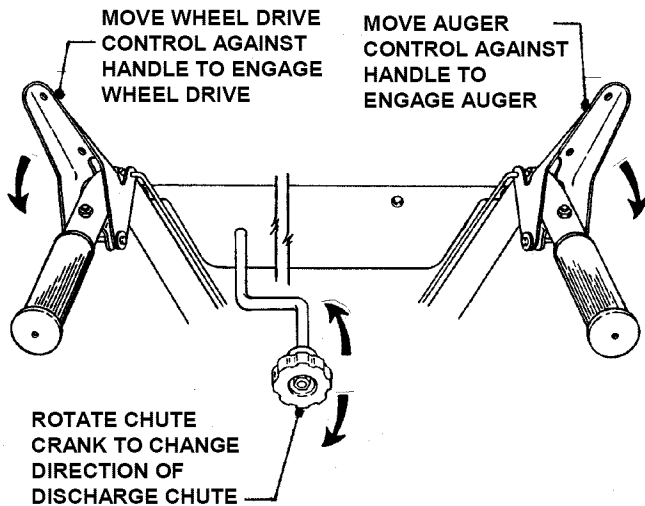
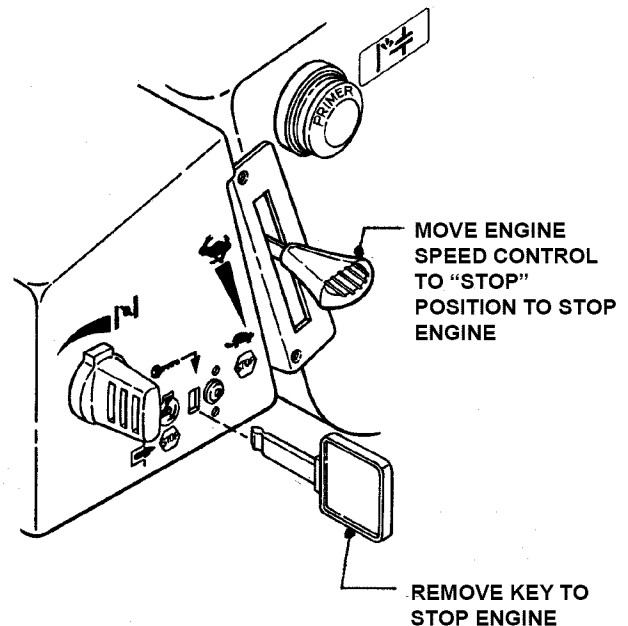

FIGURE 2.6
FIGURE 2.7
1. Move auger control lever against handle to engage auger. See Figure 2.6.
1. Move wheel drive control lever against handle to engage wheel drive. See Figure 2.6. Ground speed can be changed while the machine is in operation by changing position of the ground speed control.
1. Release auger control and wheel drive control levers to allow auger and ground speed to come to a complete stop. Refer to Figure 2.6.
3. Rotate chute crank to position discharge chute in desired direction. See Figure 2.6.
Stop the auger and wheel drive by releasing the auger and wheel drive control levers. Refer to Figure 2.6. Stop the engine by removing the key from the switch or moving engine speed control to the STOP position. Always remove key from key switch before leaving machine unattended. See Figure 2.7.
1. Pull auger control lever against handle to engage auger. Refer to Figure 2.6.
1. Move wheel drive control lever against handle to engage wheel drive. Ground speed can be adjusted while the machine is moving by changing position of the ground speed control. Machine has four forward speeds and one reverse. Refer to Figure 2.6.
3. Rotate chute crank to position discharge chute in desired direction. Refer to Figure 2.6.
Stop the auger and wheel drive by releasing the auger and wheel drive control levers. Stop the engine by moving the engine speed control the stop position or removing the key from the switch. Always remove key from key switch before leaving machine unattended. Refer to Figure 2.7.